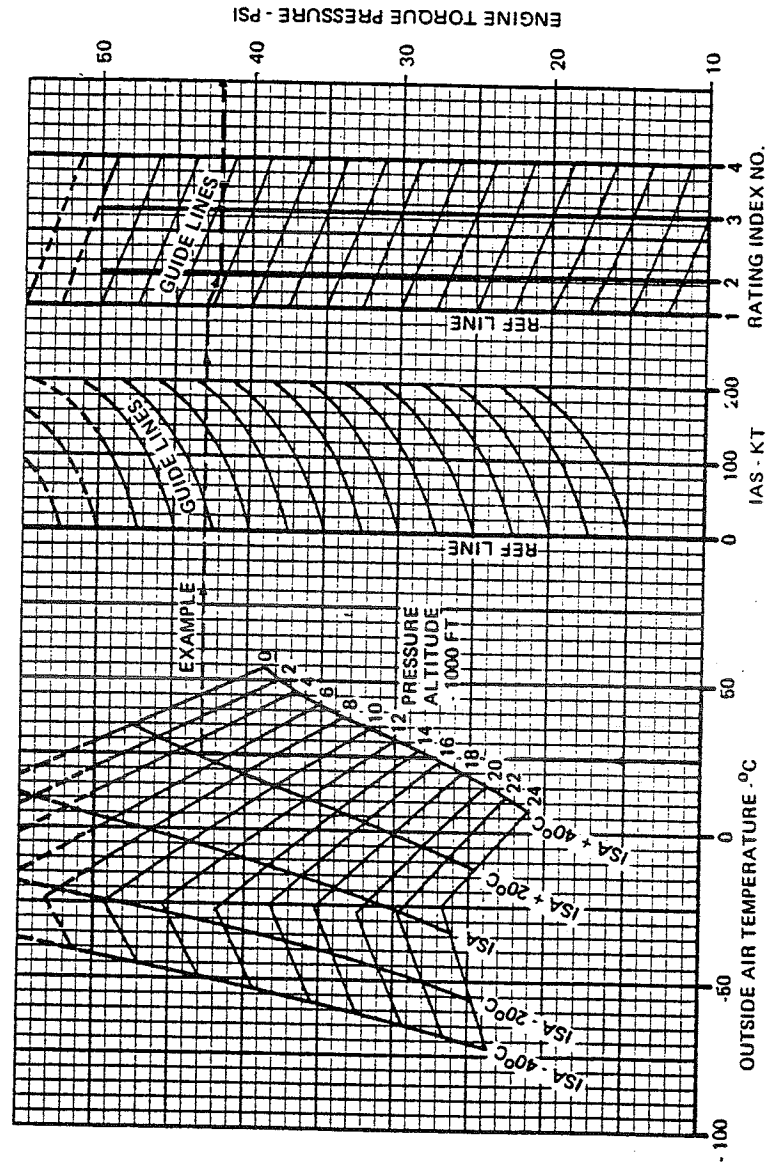

Figure 4-3
4.4.3 TAKE-OFF POWER SETTING. Take-off power settings for various altitudes, airspeeds and temperatures can be obtained from figure 4-3. The data is corrected for appropriate installation losses.